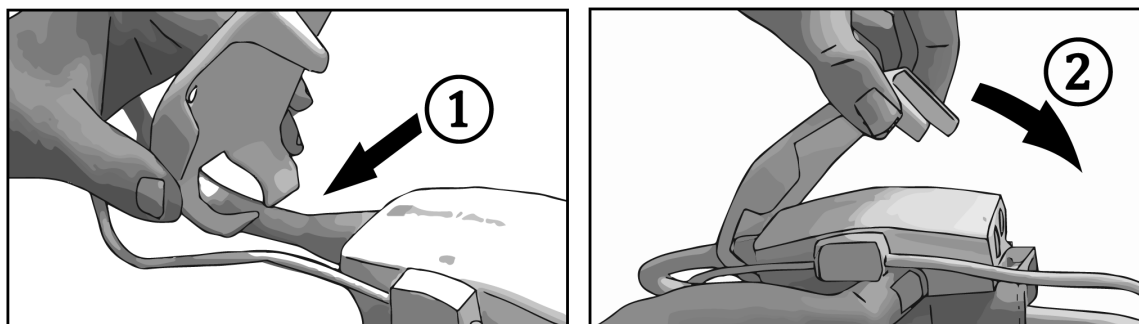

Figure B-1: Applying pressure controller cover
2. Place the pressure controller cover's back mounting notch around the pressure controller cable. See step 1 in Figure B-1 on page 383.
3. Snap the pressure controller cover over the pressure controller, making sure that the pressure controller cover does not interfere with the heart reference sensor (HRS) connection. See step 2 in Figure B-1 on page 383.